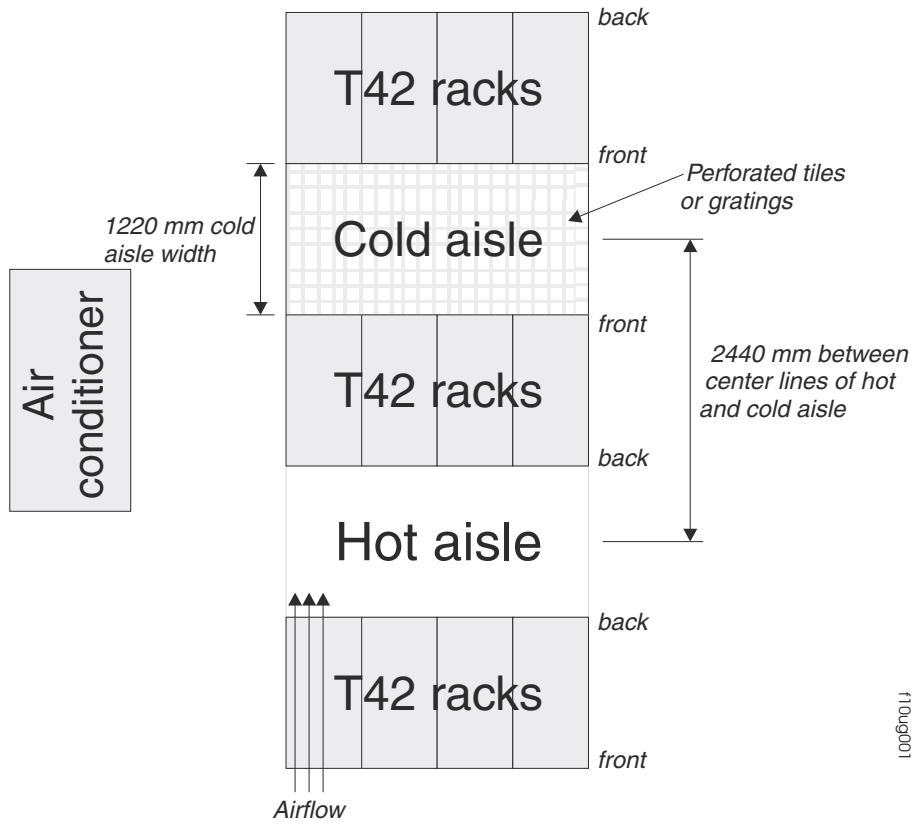

Figure 8. Example of cold aisle/hot aisle rack cabinet configuration
- Air enters at the front of the rack cabinet and leaves at the back. To prevent the air that is leaving the rack cabinet from entering the intake of another piece of equipment, you must position the rack cabinets in alternate rows, back-to-back and front-to-front. This arrangement is known as “cold aisle/hot aisle” and is shown in Figure 8 on page 16.